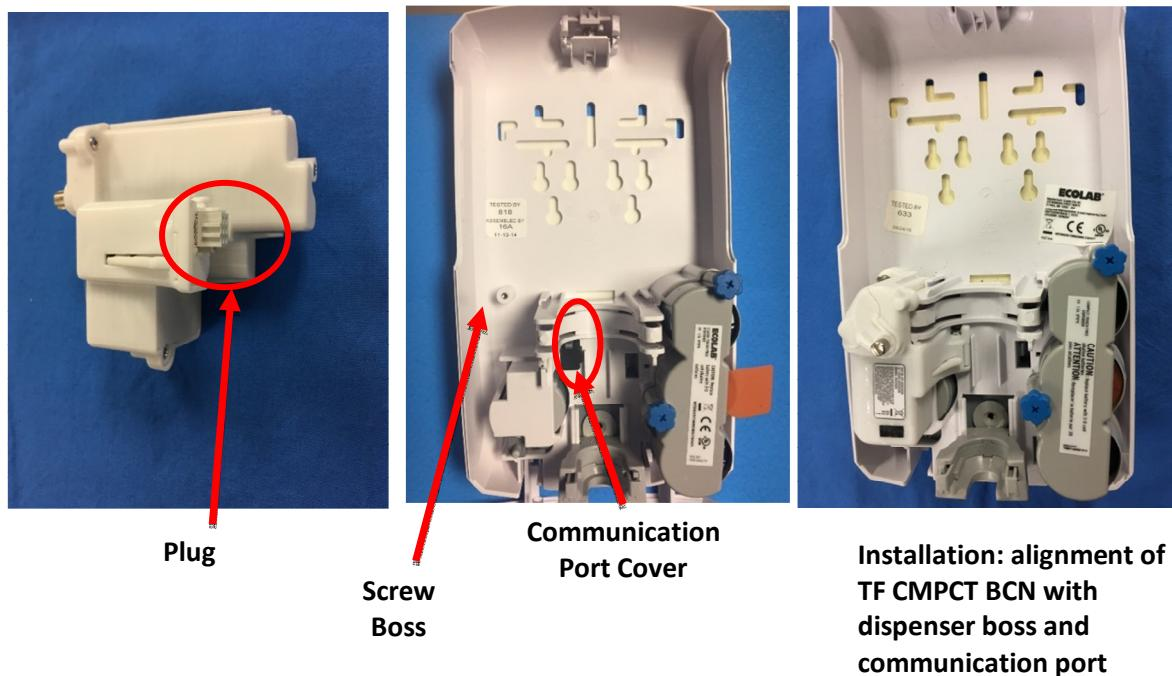

Figure 2. NEXA HHCM 915 TOUCH FREE DISPENSER BEACON Installation into Nexa™ Touch Free Dispenser
- (1) Open the dispenser by depressing the top latch button.
- (2) Remove product bottle (if any) from the dispenser and set aside.
- (3) Remove the rubber communication port cover in the back of the dispenser (see figure 2) and discard.
- (4) Align the plug with the communication port and the housing's captive screw with the screw boss in the back of the dispenser (see figure 2).
- (5) Gently but firmly insert the plug (adjusting the plug may be necessary) into the communication port, until it is firmly seated in the port.
- (6) Tighten the captive screw finger tight into the boss.
- (7) Replace the product bottle within the dispenser.
- (8) Close the dispenser.